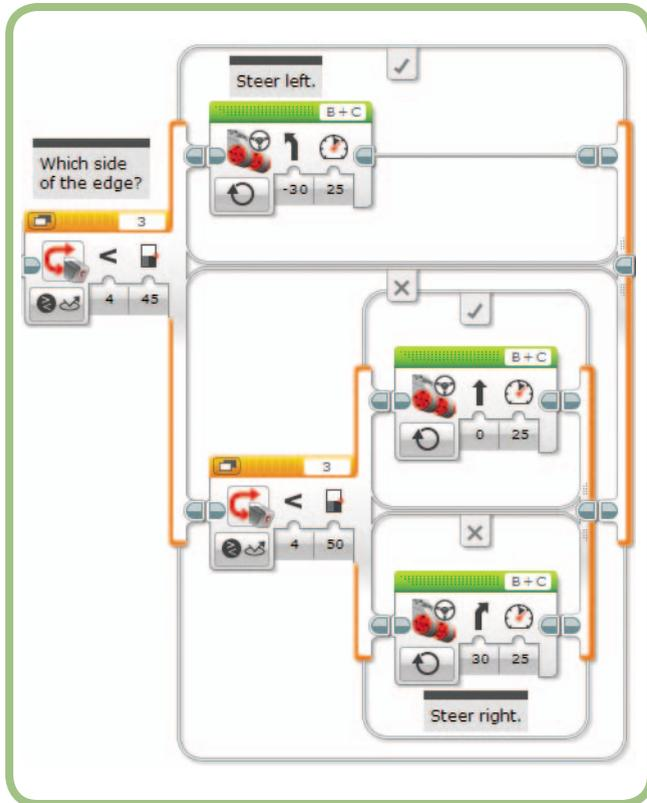

Figure 6-8: Setting the Threshold values for the new blocks
- The Switch block should now look like Figure 6-8.